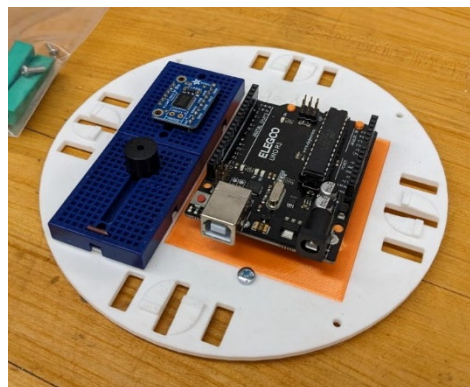

Figure 14: Upper robot chassis with microcontroller mount, microcontroller, two breadboards, and TB6612 motor controller installed in breadboard
14. Next, attach two mini breadboards to the side of the module as shown in Figure 14. Make sure to not cover any of the sensor or standoff mounting holes.